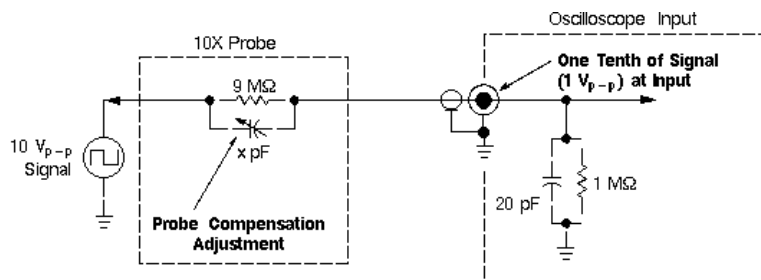

Figure 4. Typical Probe/Oscilloscope 10-to-1 Divider Network.
- b. Apply a square wave to the circuit and measure the gate voltage using oscilloscope. Determine C_{in} capacitance deducting the probe and oscilloscope capacitances, as modelled in Figure 4. Read the information on the probe and check oscilloscope manual for input impedance. To eliminate the probe/oscilloscope parasitic capacitances, make 2 or 3 measurements applying different V_{stop} voltages as you did during preliminaries.